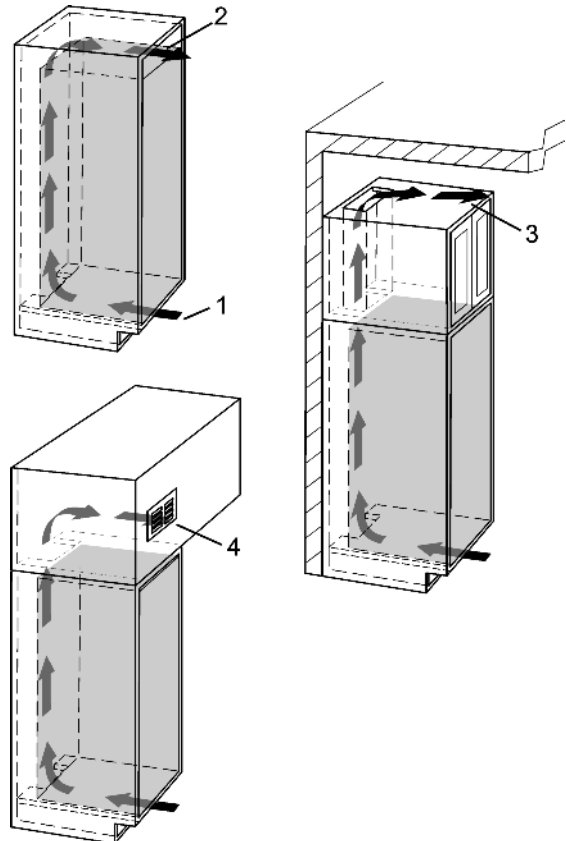

Fig. 5
- An effective ventilation cross-section of at least 31 in2 (200 cm2) must be present at the air intake Fig. 5 (1) and air outlet Fig. 5 (2).
- The upper ventilation cross-section can be set up directly above the appliance Fig. 5 (2), near the ceiling above a cabinet Fig. 5 (3), or as an air vent in an intermediate ceiling Fig. 5 (4).